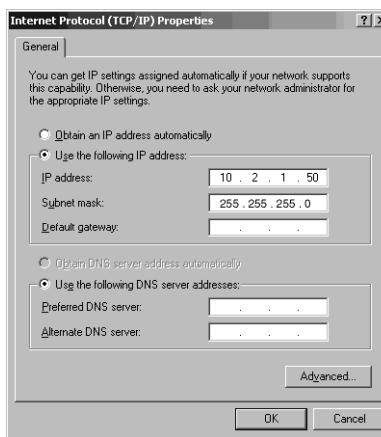

Figure 12. Internet Protocol TCP/IP Properties dialog box
4. In the 'Components checked are used by this connection' window, highlight Internet Protocol (TCP/IP) and then click the **Properties** button to display the Internet Protocol TCP/IP Properties dialog box (Figure 12).
5. Click the **Use the following IP Address** radio button and enter an IP Address and Subnet mask for your PC. You can use an IP address that is one digit off from the customer supplied IP Address you will assign to the console's TDIM Module. For example, if the IP Address for the TDIM Module is 10.2.1.51, you would enter 10.2.1.50 for the PC's IP Address. You also need to enter a Subnet mask. Use the same Subnet mask that is in the example in Figure 12 above (255.255.255.0).
- Note: Prior to reconnecting your computer to a network, you will need to select the **Obtain an IP address automatically** radio button as shown in Figure 12 above.